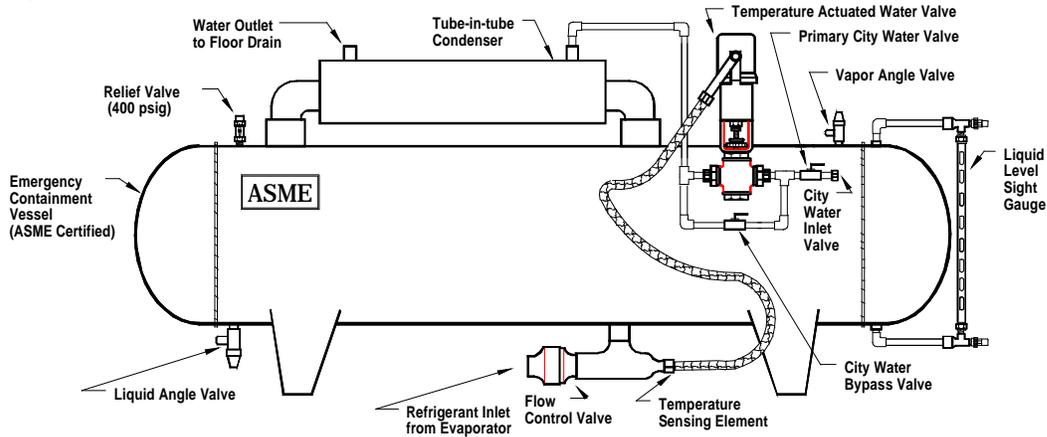

Figure 9. - Schematic of System
2. Both liquid level gauge valves should normally remain closed at all times and opened only when it is necessary to view liquid level, then re-closed (see Figure 9).
3. Primary city water valve **MUST** remain OPEN at all times (see Figure 9).
4. Bypass city water valve **MUST** remain CLOSED at all times except when performing manual refrigerant transfer (see Figure 9).